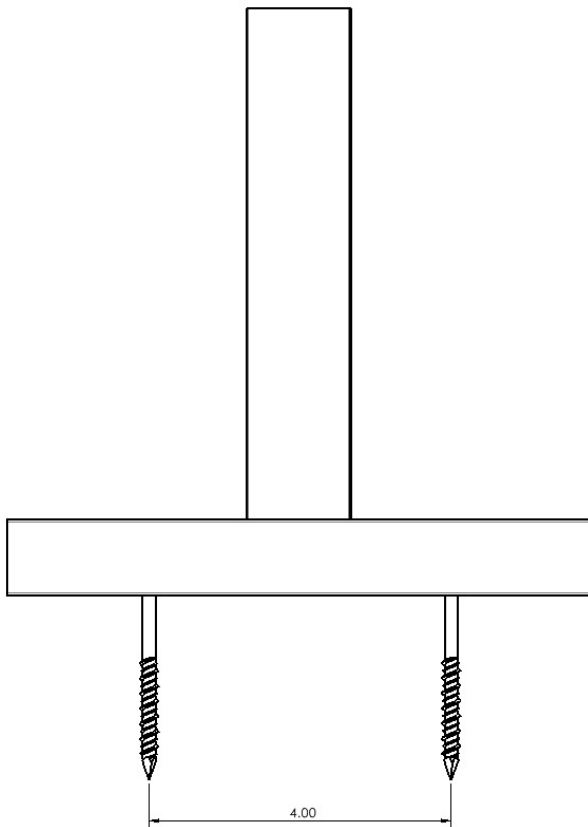

Figure 18
13. For both block frame and nail fin frames, additional anchors are needed at each T-bar location. At each T-bar location, hard block/shim as needed and once level, drill (2) $\frac{1}{4}$ " diameter holes 2" from each side of the T-bar through the anchor screw groove. Pump a generous amount of Dow 795 sealant, or equivalent, through the anchor holes and install (2) additional $\frac{1}{4}$ " diameter x 3" anchors. Apply and tool additional sealant over the heads of the anchor screw. (See Figures 18 and 19)